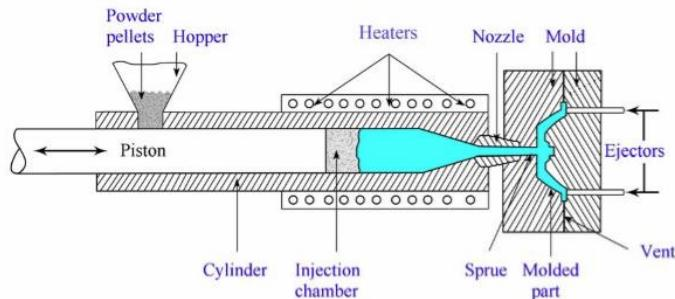

Figure 1 Injection molding setup
**Injection:** During this process, the plastic material is melted by the application of heat and forwarded through the piston towards the nozzle and finally into the mold. The function of torpedo in the heating zone is to spread the molten plastic into the thin film. The molten plastic is then injected into the mold cavity quickly. The amount of material that is injected into the mold is referred to as the shot volume. The injection time can be estimated by the shot volume, injection power and pressure. The schematic of injection molding process is shown in figure 1.